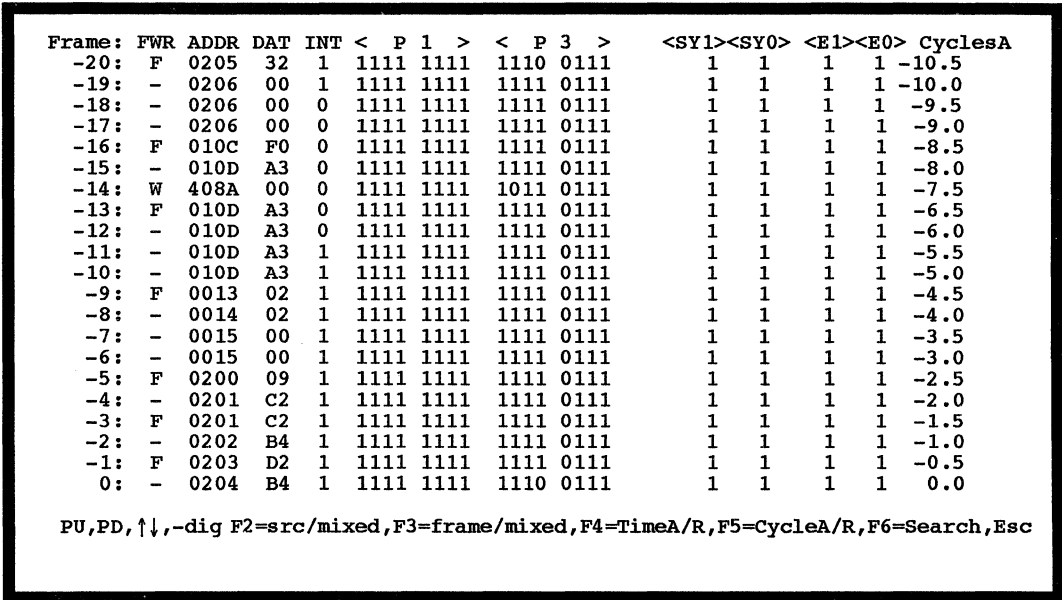

Figure 31. Screen After the TDF or <F3> Command
Now your screen should look similar to Figure 31.
The trace buffer can hold many more frames than will fit on the screen at any one time. The line at the bottom of the screen in Figure 30 and Figure 31 identifies the keys you may use to scroll through the buffer or change the display modes. The numbers at the left side of the screen give the frame numbers: pre-trigger frames have negative numbers, the trigger frame is number zero, and the post-trigger frames have positive numbers.
In Figure 31, the column labeled **FWR** tells whether the frame was the first opcode fetch (F), a memory write (W), or a memory read (R). The memory writes or reads are for **XDATA** memory only. The column titles **ADDR** and **DAT** stand for Address and Data. **INT** stands for interrupt Level (which is 0 for the Main Program, 1 for a Level 1 interrupt, etc.). The entries under the **P1** and **P3** columns give the states of the ports P1 and P3, expressed in binary form. The entries under the columns **SY1**, **SY0**, **E1**, **E0** give the states of the external signals that are available on the POD boards (see pod board descriptions). For more information about the format of the frame data please refer to the section on "How the Advanced Trace Works" in the Orientation Chapter.